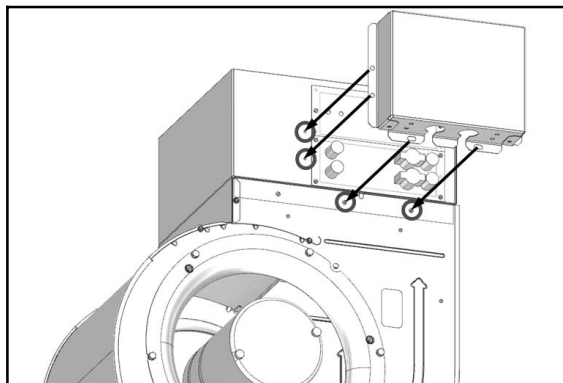

Fig. 16 — Mount Heater Element Cover to Blower Collar
4. Mount protective cover to blower collar using four (4) screws as shown in Fig. 16.